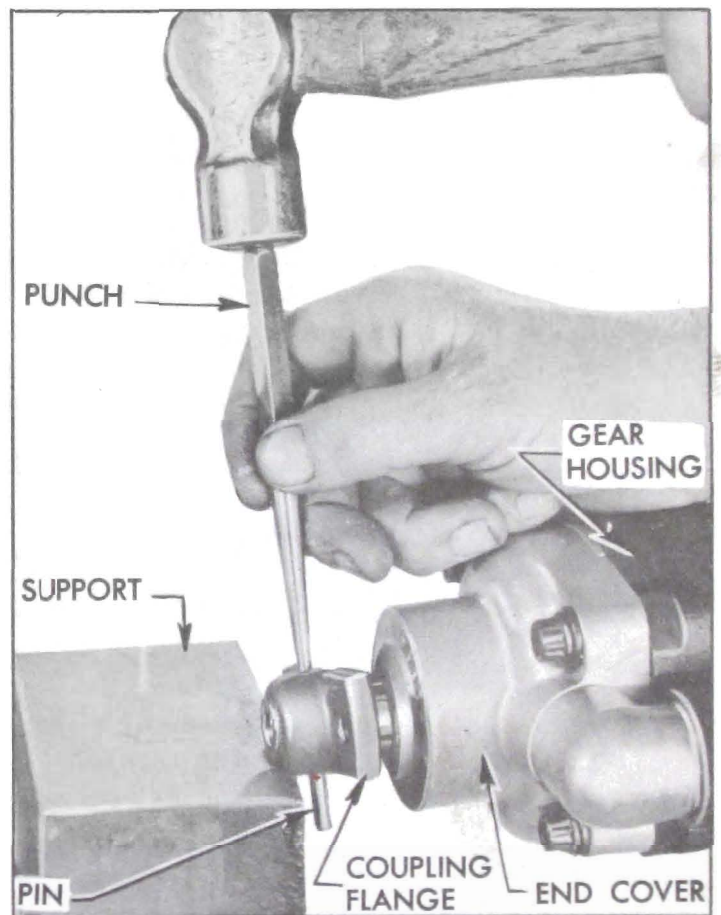

Figure 8-25—Removing Coupling Flange
2. Pull actuator lever out of end cover and remove flexible coupling and mark coupling flange and worm shaft before disassembly. Support coupling flange and remove coupling flange and felt washer from worm shaft by driving pin out with punch. See Figure 8-25.